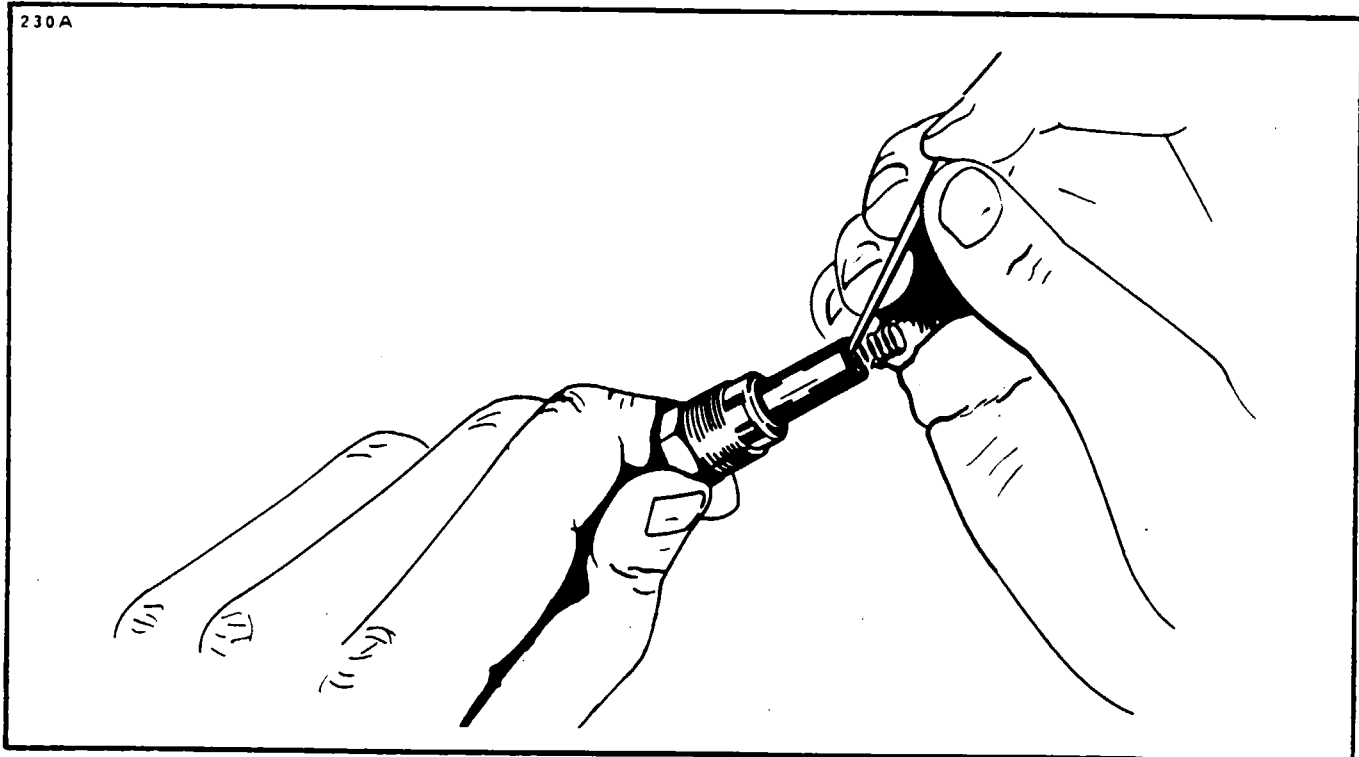

Figure 8-26. Removing Spring From Lead Assembly
- a. Using a Bendix 11-7073 needle or a mechanical pencil with the lead retracted, hook the end of the contact spring as shown in Figure 8-26.